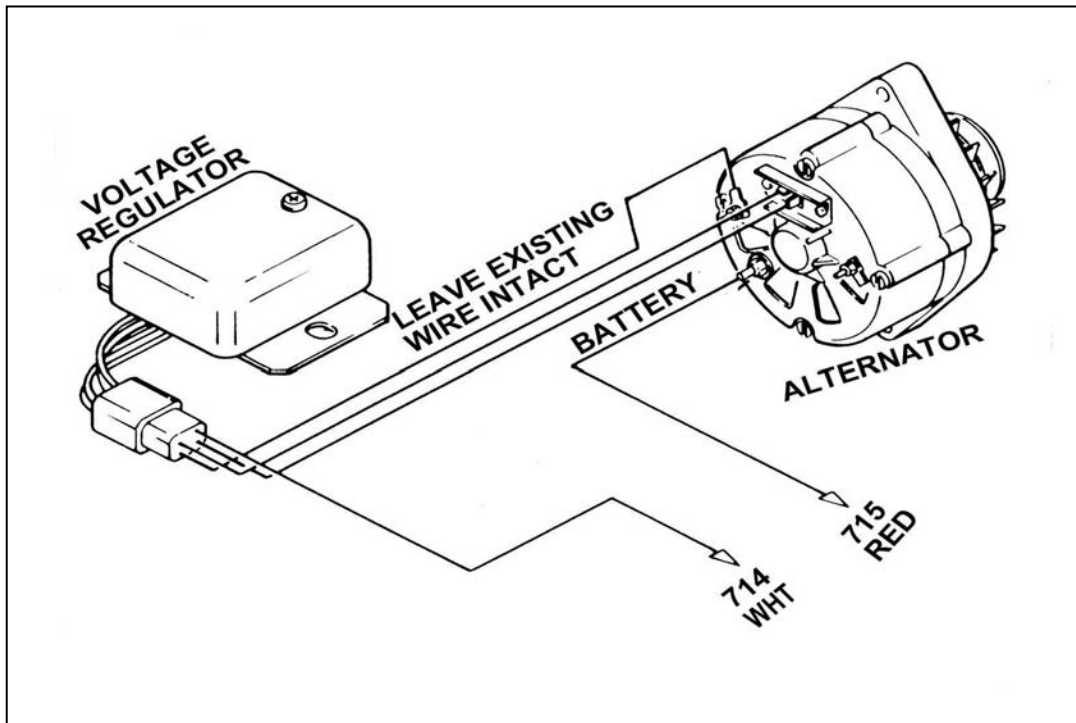

Figure 8.2 Motorola Charging System
8.1.3 Motorola Alternator Charging System. See Figure 8.2.